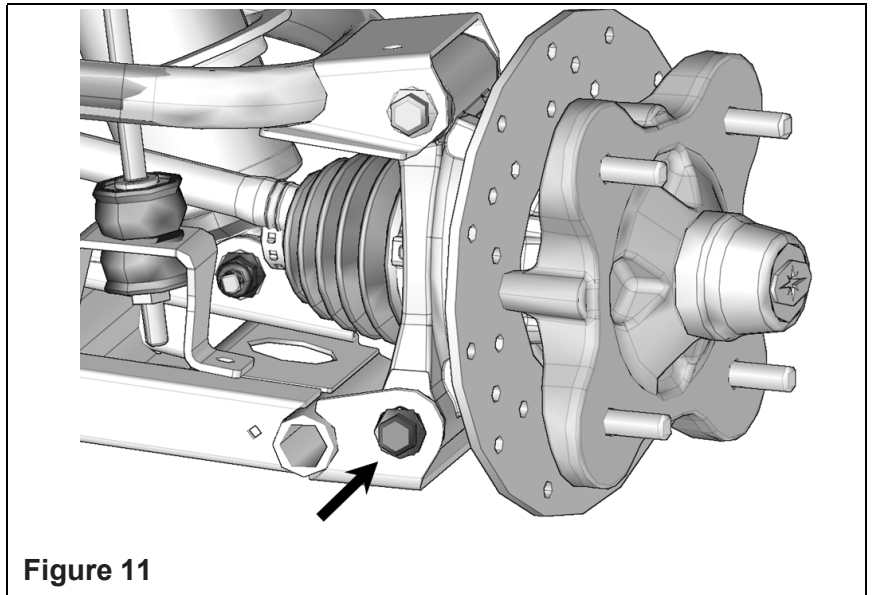

Figure 11
5. Remove bolt securing the lower suspension arm to the wheel hub. A new M12-1.75x190 mm bolt provided in the installation kit will be used to assemble the anchor bracket, lower suspension arm and wheel hub. Figure 11.